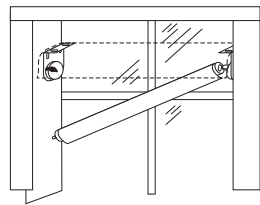

Fig 6
- a. Insert the clutch plug into the clutch unit (Fig 6).